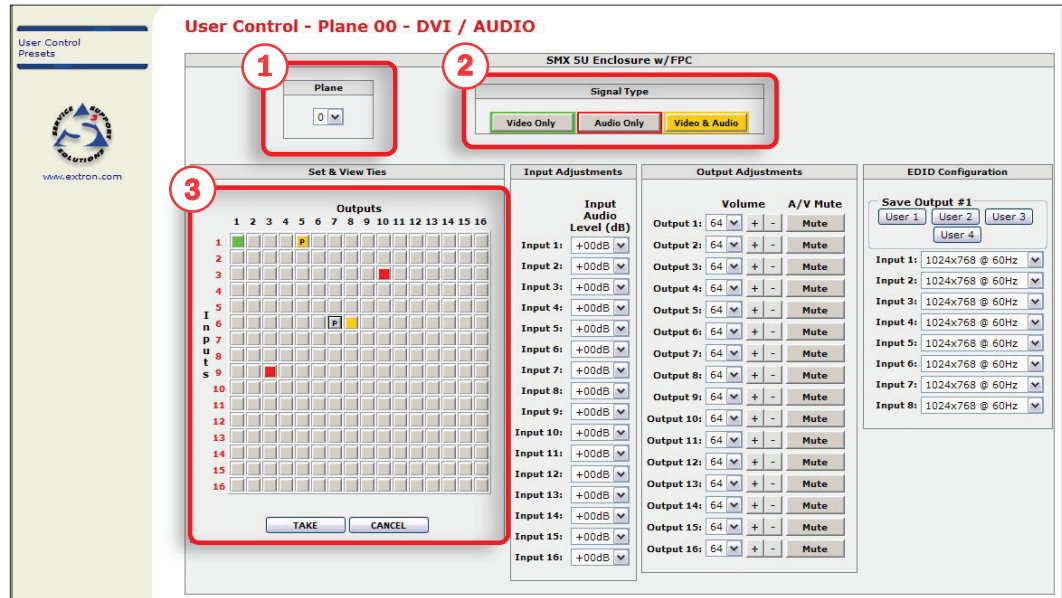

Figure 58. Control Pages – User Control Page
The User Control page emulates some of the front panel features and displays the current input-to-output ties, input audio level, output volume, A/V mute status, and current EDID settings (see figure 58). See **Operation** on page 13 for additional descriptions.
1. Select the desired plane from the drop-down list (see figure 58).
NOTE: When viewing the ties on the User Control page, video ties are shown green, audio ties are red, and video and audio ties amber (see figure 58).
3. Click the desired combination of input and output buttons in the Set & View Ties map. The button changes color according to signal type and indicates a provisional tie with a letter “P” (see figure 58, input 6, output 7, for example).
3. Click the desired combination of input and output buttons of the tie to be removed. The button changes color and indicates a provisional tie with a letter “P” (see figure 58).
- If a single signal tie (video or audio) is removed, or there is a combined signal (the Video & Audio signal type button is highlighted), the Video Only or Audio Only button turns gray (see figure 58, input 6, output 7).
1. In the Signal Type field (see ②, figure 58), click **Video only**, **Audio only**, or **Video & Audio**, depending on the signal type to be muted.